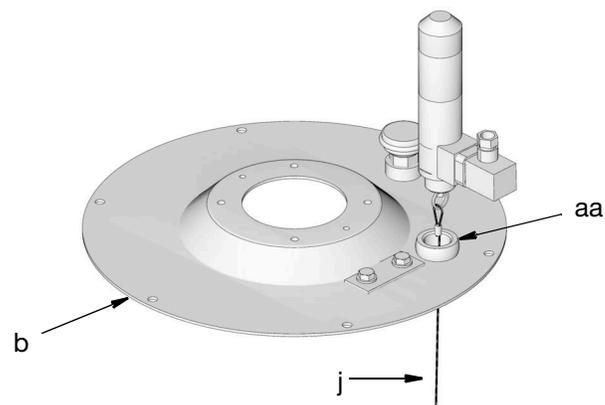

FIG. 6
10. For easy wiring, make sure the DIN connector is facing out (FIG. 6). Feed the low level cable (j) through accessory hole (aa) in the reservoir cover (b). Wrench tighten low level in place.